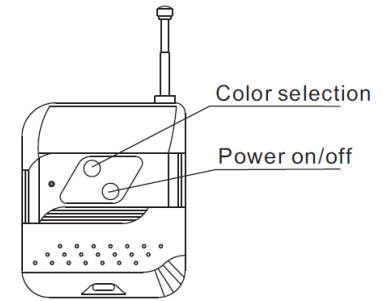

Fig 4
F. The Function of Wireless Remote Control (see Fig. 4)